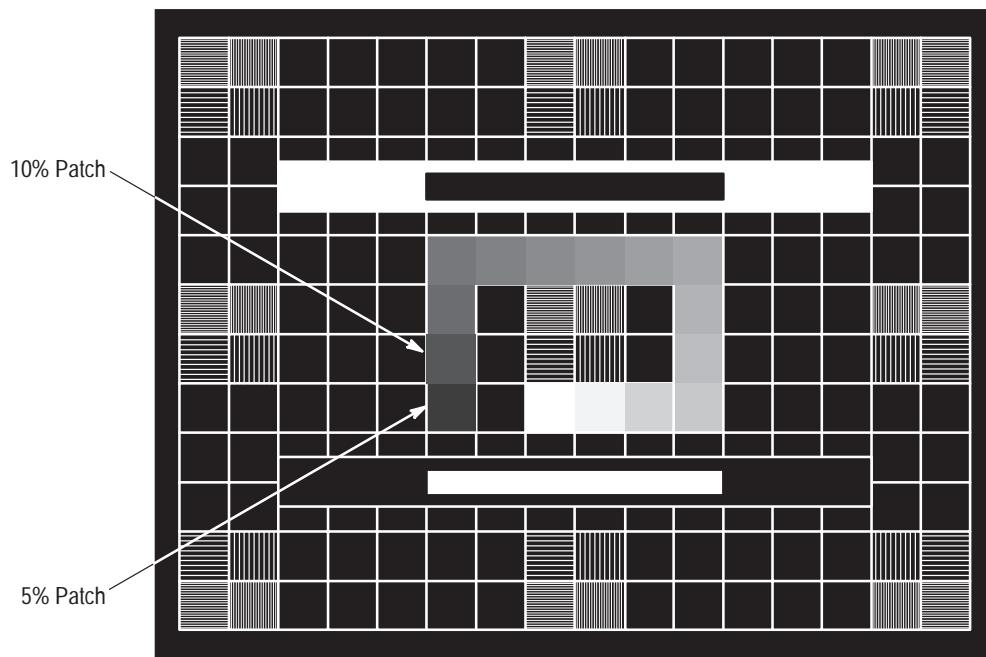

Figure 5-11: Five and ten percent luminance patches
- Adjust R403 (BRIGHTNESS) until the background raster lines in the 5% luminance patch (see Figure 5-11) just disappear, while the lines in the 10% luminance patch are just visible, when both are viewed through the magnifier.